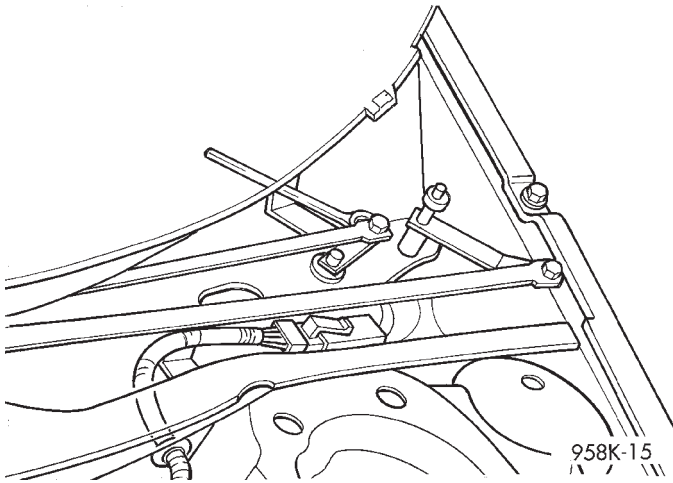

Fig. 15 Linkage Removal
- (1) Remove wiper arms and blades.
- (2) Remove the cowl screen.
- (3) Remove wiper motor assembly.
- (4) Disconnect wiper arm linkage, by using a ball joint/tie rod separator, separate the right and left ball cap from the ball (Fig. 15).
- (5) Disconnect drive link from the motor crank. Using a ball joint/tie rod separator and separate the ball cap from the ball.
- (4) Disconnect drive linkage from motor output crank. Using a ball joint/tie rod separator, separate the ball cap from the ball (Fig. 15).
- (5) Remove motor mounting nuts and remove motor.
- (6) Disconnect wire connector at motor.